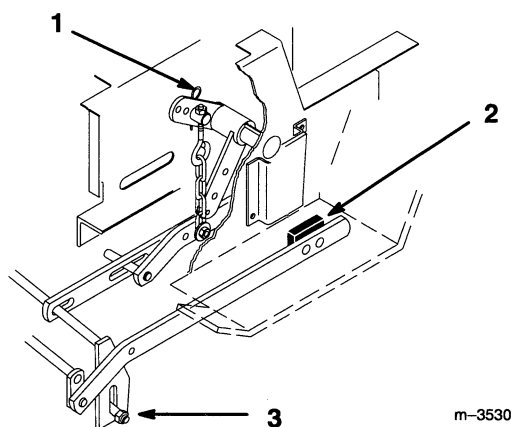

Figure 13
2. Adjust lift chain by turning trunnion on eyebolt in rear hole of tractor lift (Fig. 13). Turn trunnion clockwise to raise or counterclockwise to lower mower. Remove hood stand panel for access to the trunnion and chain.
3. Transport level stops are normally in the bottom of the slot, however they can be adjusted up for side-to-side level when extra weight from a grass catcher is on one side (Fig. 13).